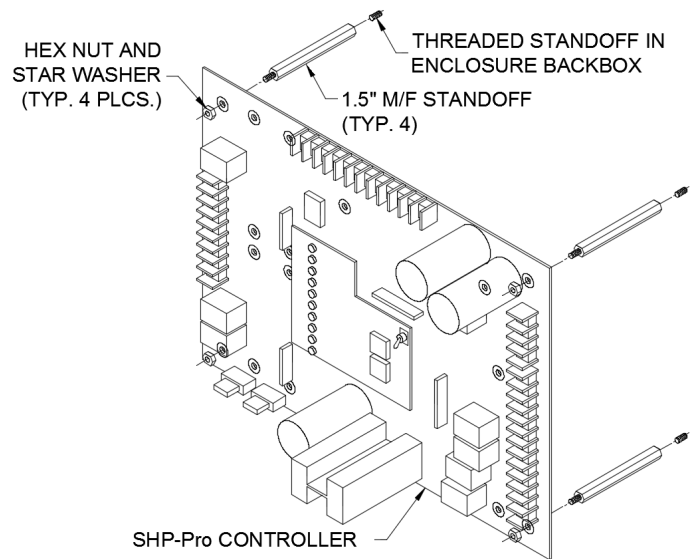

Figure 31 SHP-Pro Board Mounting
Step 2 - Secure the five M/F hex standoffs onto the main control board, as shown in Figure 31.